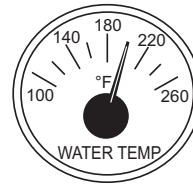

Figure 48. Coolant Temperature Gauge
8. The **coolant temperature gauge** (Figure 48) will indicate the coolant temperature. Under normal operating conditions the coolant temperature should be approximately 180°F (82°C).